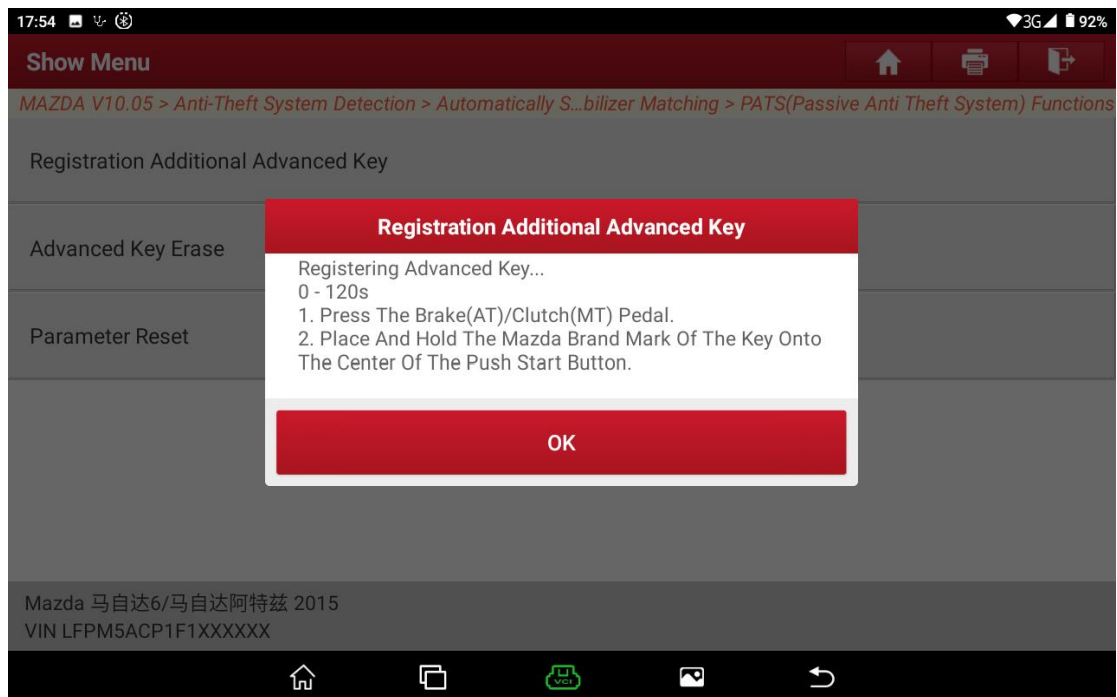

Figure A15
13. Prompt that the waiting time is 0-120s. See Figure A15.